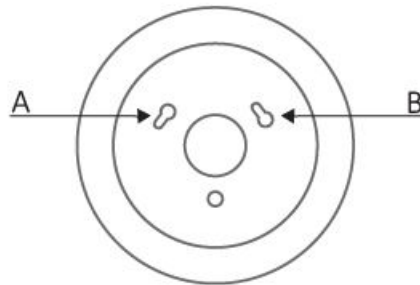

Fig.1
1. Remove 3 detachable screws at the bottom of the fan, find the screw holes of AB, align the holes with the holes of the screws just removed. (Fig.1)
LED to the light kit plate (Fig.1)